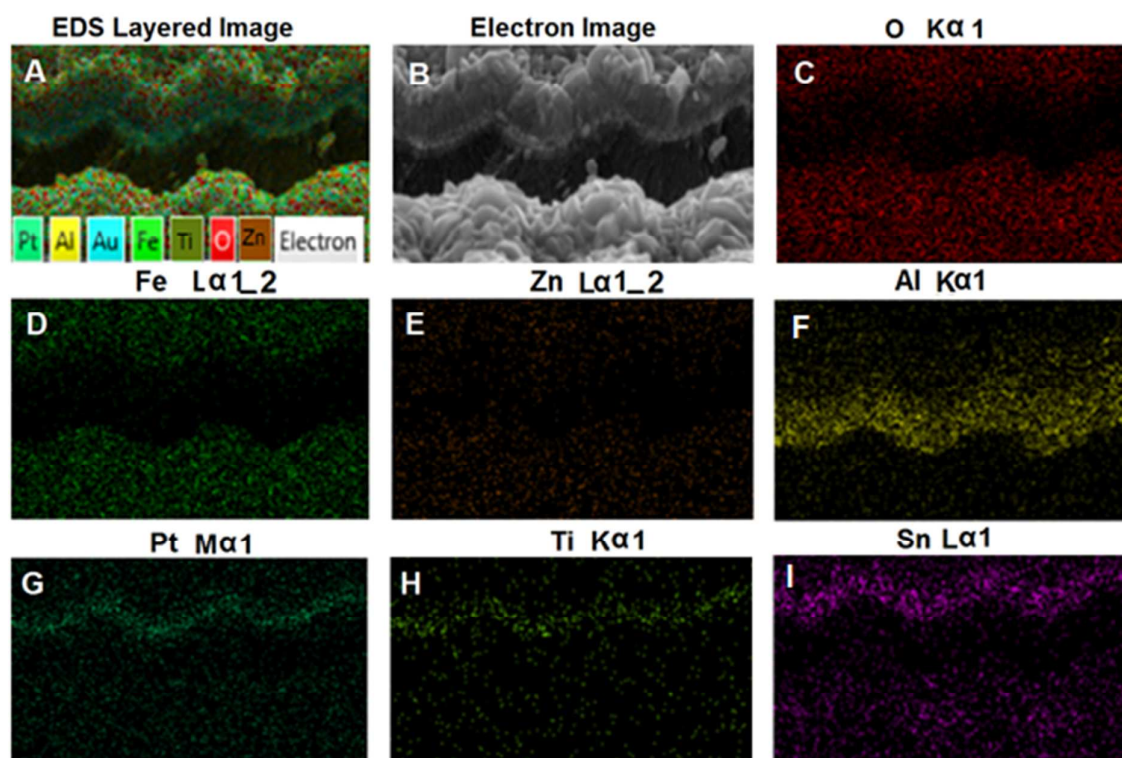

Figure S2: Energy dispersive X-Ray spectroscopic images of composite ZF2 deposited on 3D template.
The elemental mapping for Zn, Fe, O, Sn, Ti, Pt and Al are shown in figure S2. The protective layers of Ti and Pt against basic electrolyte are clear in their respective elemental mapping shown in Fig S2 (G) and (H). The mapping of Sn of FTO layer can also be seen in section (I) of figure S2. The mapping of other fundamental elements of the composites like Fe and Zn are shown in section (D) and (E) of figure S2.